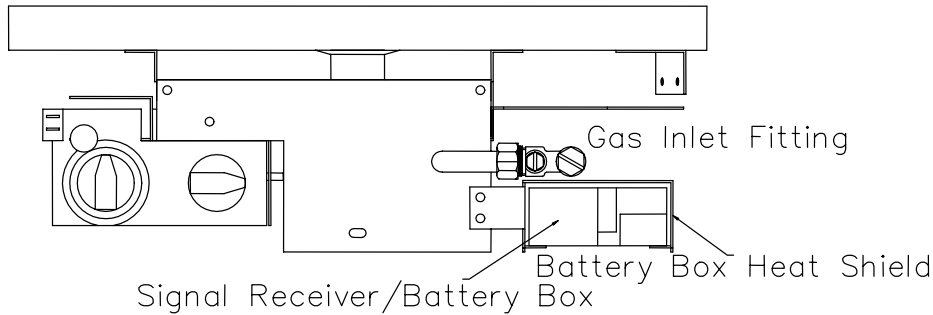

FIGURE 2
- 13 Fit the burner unit into place within the firebox and screw in place with a single screw in the bottom of the control panel. (Touch Control and Handset Remote Control models; unscrew the battery box heat shield from the fascia to allow room to connect the gas supply. Ensure the gas supply pipe is horizontal where it meets the inlet fitting to make sure that there is room to re-fit the battery box heat shield. See Figure 2)